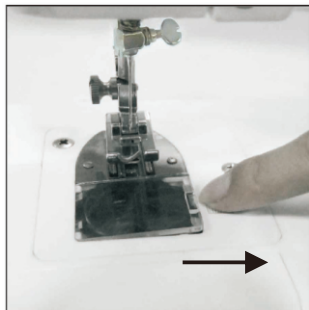

Fig.7
1. Slide the bobbin cover button to the right and remove the bobbin cover (Fig. 7).